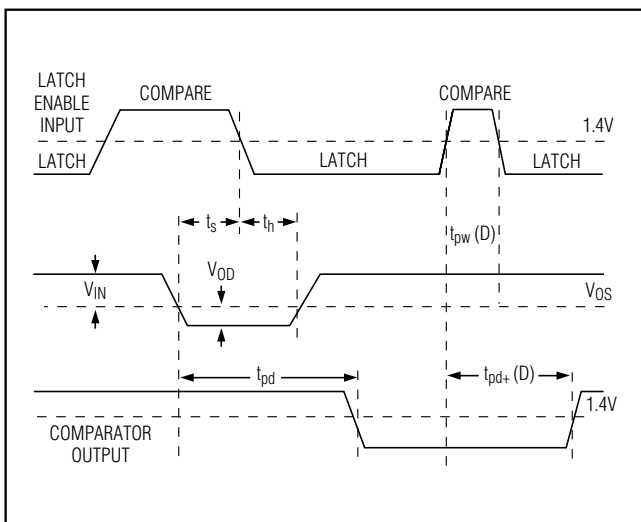

Figure 2. MAX9201/MAX9202/MAX9203 Diagram
**Note 6:** Guaranteed by design. Times are for 100mV step inputs (see propagation delay characteristics in Figures 2 and 3)